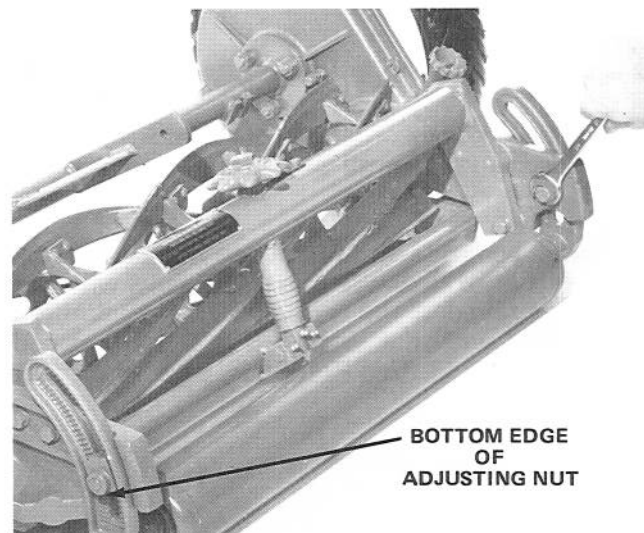

Figure 5
A new mower must have six or more notches showing below bottom edge of roller adjusting nut (Fig. 5). If less than six notches show, height-of-cut is too low. When height-of-cut is too low, the bedknife rather than the rear roller supports the mower. This causes the ground to push against bedknife and consequently, forces bedknife against the reel. The result is usually rapid wear of the bedknife and reel. An uneven wear pattern, commonly termed "rifling" could also result.
1. Loosen cap screws retaining adjusting nuts in roller brackets (Fig. 5).
2. Depending on height-of-cut desired, set roller adjusting nuts so six or more notches show below bottom edge of nuts (Fig. 5).
3. Tighten cap screws (Fig. 5) to retain height-of-cut setting, and make sure same number of notches show below both adjusting nuts.